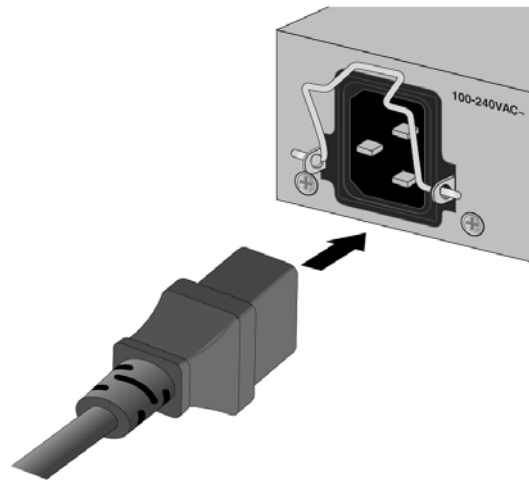

Figure 49. Connecting the AC Power Cord
2. Connect the AC power cord to the AC power connector on the rear panel. Refer to Figure 49 on page 93.